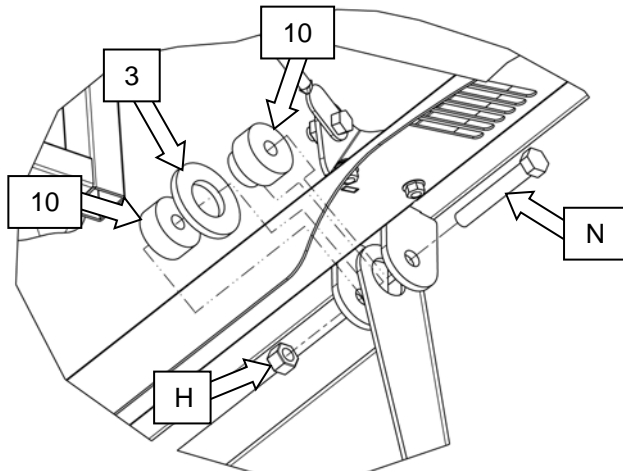

Figure 6
- (4) ½" Nylock nuts (H)
- 11) Secure back of cab to top of rear mount using **(Figures 6 & 7)**;